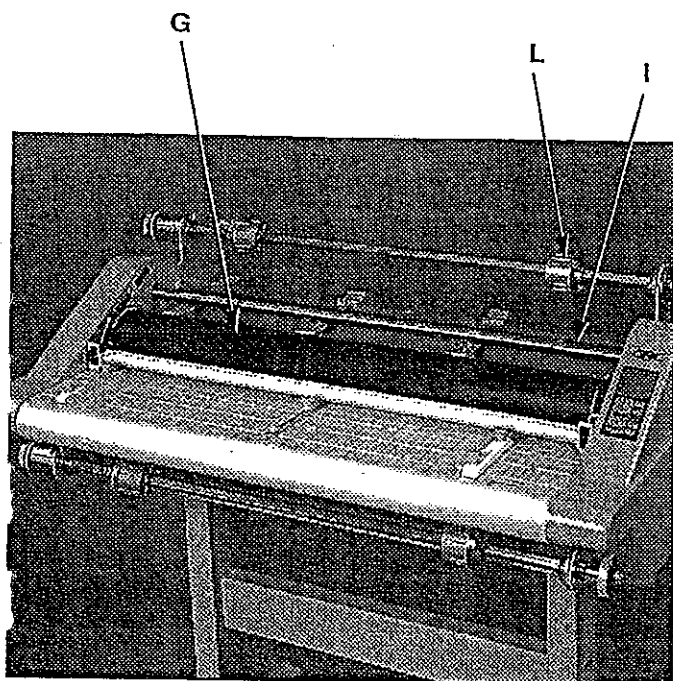

Fig. 4
G. HEAT SHOES: Figure 4.
I. IDLER BAR: Figure 4. The idler bars, located near each supply roll, are used to direct the film across the heat shoes and assist in keeping the film flat on the shoes. The bottom Idler Bar is movable to ease film loading.
L. FILM SHAFT & CORE ADJUSTER: The core adapters are inserted into the ends of the film cores. The film shaft is inserted through the centers of the core adapters then placed on the laminator, (Figure 4). The Discovery can run 1, 2-1/4 and 3 inch core films.